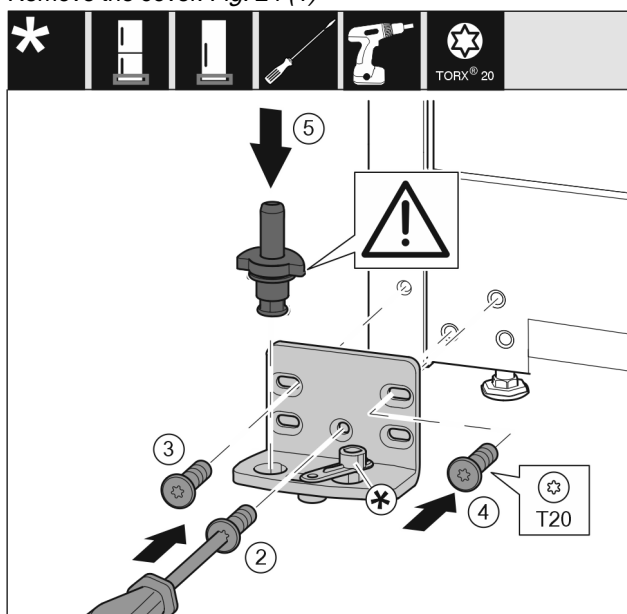

Fig. 25
- Place the bearing bracket on the other side and screw it on with a T20 screwdriver. Start with screw 2 at the bottom in the middle. Fig. 25 (2)
- Screw in screws 3 and 4 tightly. Fig. 25 (3,4)
- Insert the bearing pin completely. Make sure that the latching lug is pointing to the rear. Fig. 25 (5)